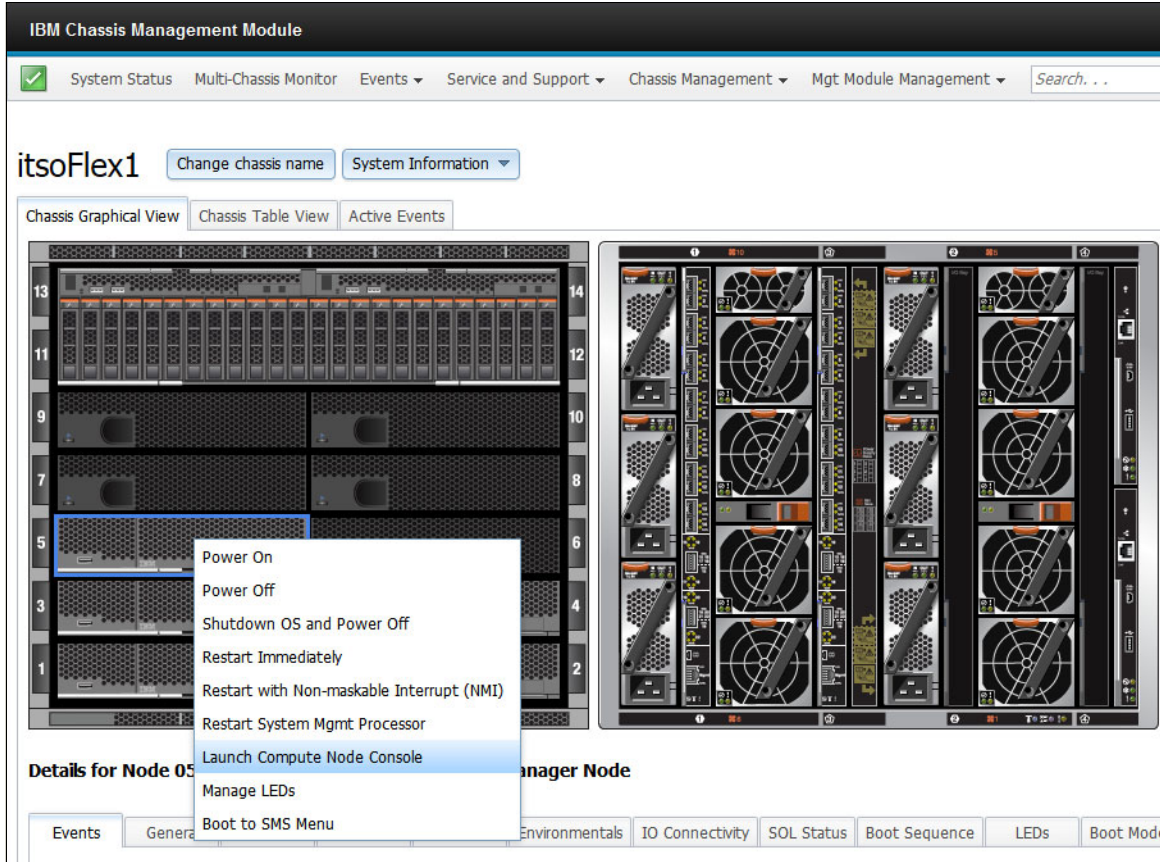

Figure 6-1 Launching Flex System Manager Console
1. From the IBM Chassis Management Module web interface, right-click the **Flex System Manager node** in the Chassis Map, then select **Launch Compute Node Console**, as shown in Figure 6-1.